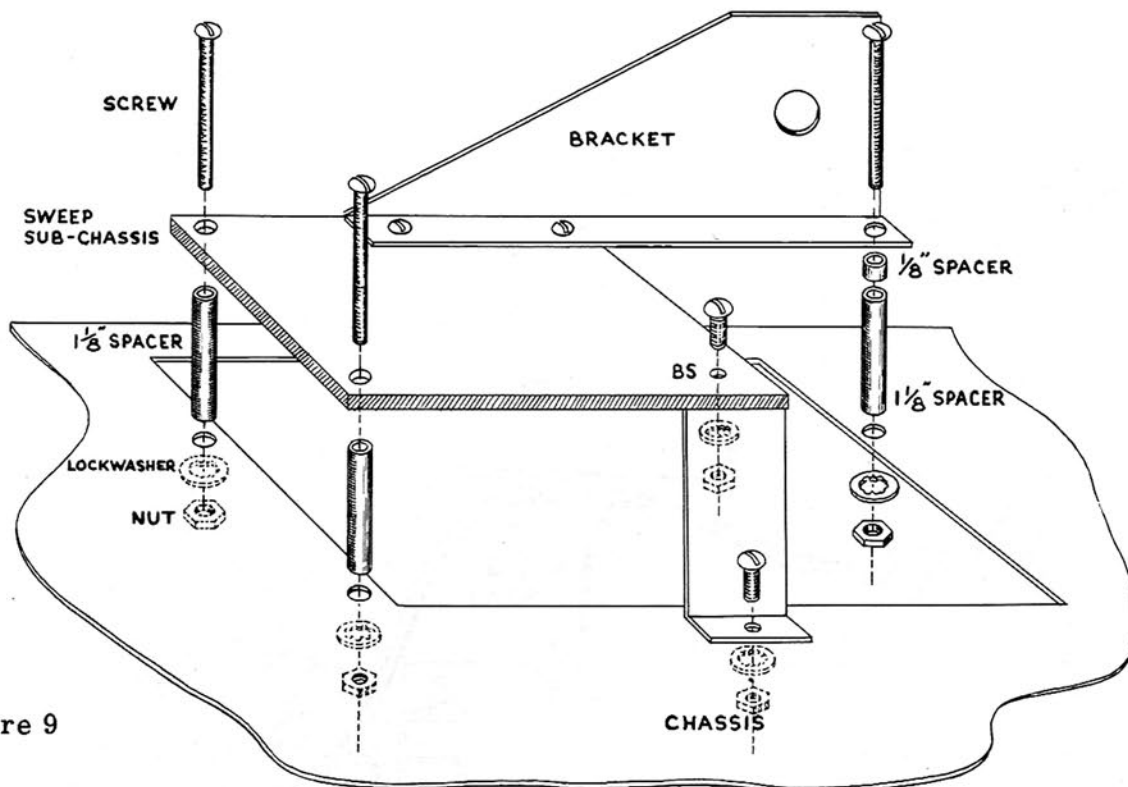

Figure 9
- () 165. Remove the screw holding terminal strip AC in place on the marker oscillator chassis and insert a 6-32 x 1 1/2" screw in its place. Place 6-32 x 1 1/2" screws through the other three corner holes. Do not install nuts on these screws. See Figure 9.
- () 168. Mount the S-shaped bracket at location BS, using 6-32 hardware. See Figure 9.